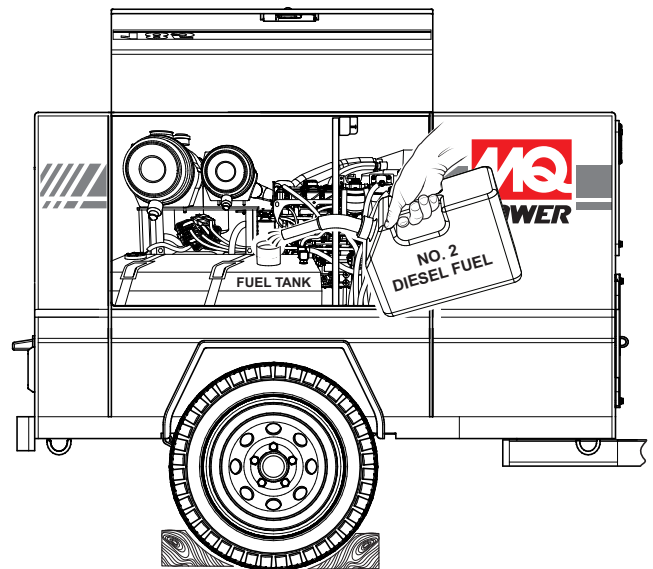

Figure 18. Adding Fuel
3. If fuel level is low, lift and open the enclosure door (curbside). Remove fuel cap from fuel tank and fill fuel tank (Figure 18) with #2 diesel fuel. **DO NOT** fill the tank beyond capacity.